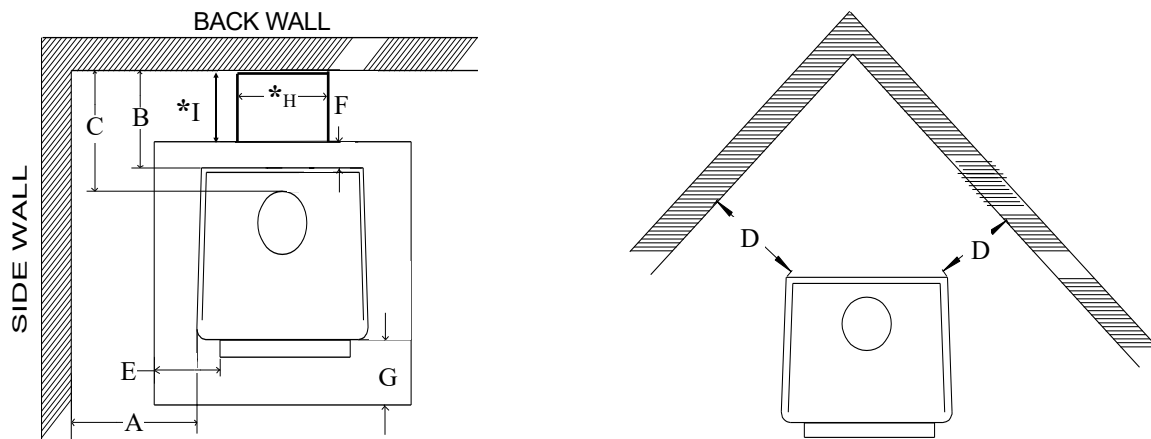

Figure 20
* For wall exit, floor protector must be under horizontal pipe full length of pipe. There must be 2" on each side of pipe. Maintain 18" between pipe and ceiling. (See Figure 20, measurements H & *I).